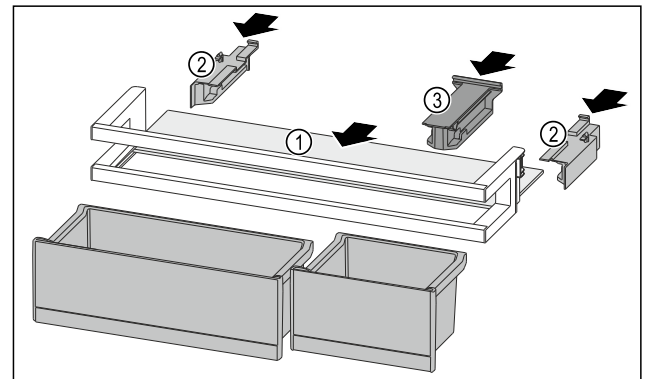

Fig. 87
- Push the shelf Fig. 87 (1) into the side cutouts.
- Insert the side parts Fig. 87 (2).
- Insert the retaining part Fig. 87 (3).